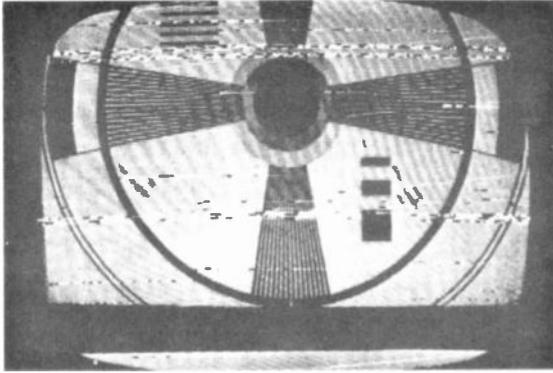

FIGURE 19-17 HORIZONTAL BANDS OF NOISE INTERFERENCE IN THE PICTURE, WITH VERTICAL ROLLING.
**External noise.** Interfering pulse voltages can be produced by ignition systems in automobiles and by arcing in electric motors. This interference shows up as short, horizontal black streaks in the picture (Fig. 19-17). The picture may roll vertically and tear apart horizontally if the noise is strong enough to interfere with synchronization. It is important to notice that when the noise streaks are in a cluster forming a pair of horizontal hum bars, the arcing is from a device operating on the 60-Hz power line. Ignition-noise streaks appear at random through the picture.